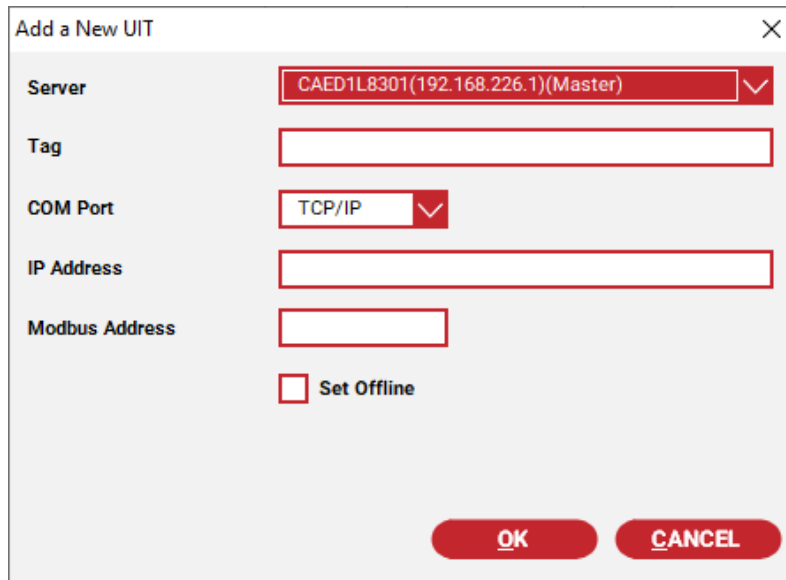

Figure 3.18 Add a New UIT
1. From the Device drop-down menu, select NGC-UIT, then Add UIT. The window (as shown in Figure 3-18 Add a New UIT) allows you to enter the information for the UIT you wish to install.